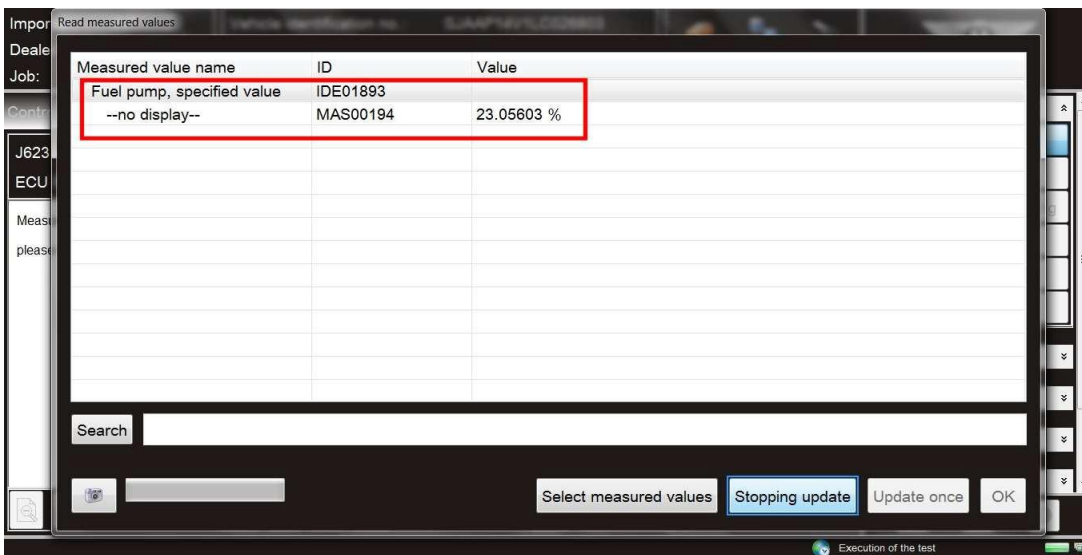

Figure 1
- Referring to Figure 1 - Navigate to Measured value IDE01893